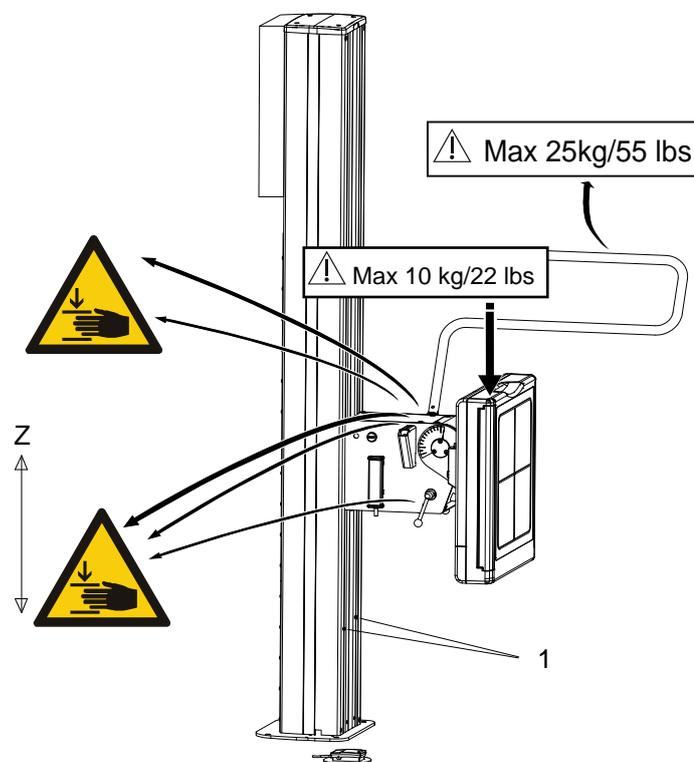

Fig. 2-6 *Warning labels*
Possible squeezing hazard areas are indicated in Fig. 2-6 *Warning labels*. Getting stuck in the imaging unit slide opening (1), causes squeezing hazard, if the imaging unit is moving downward or upward (Z-direction).